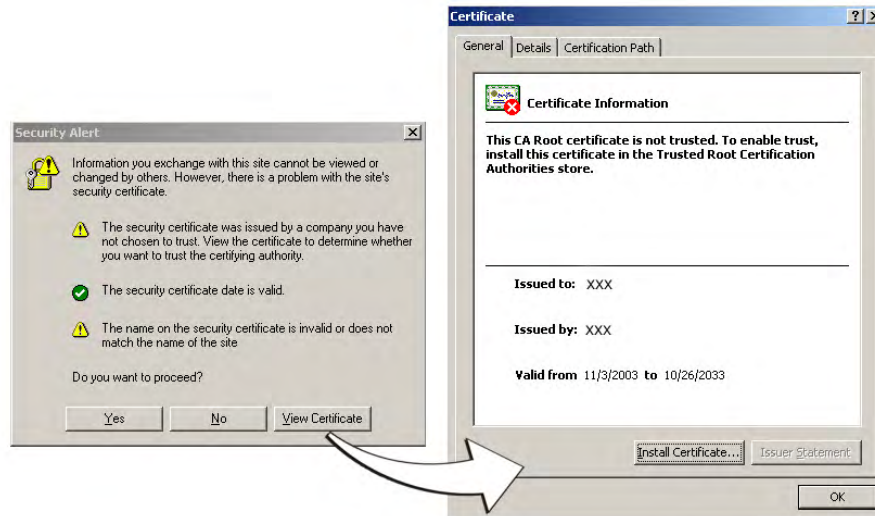

FIG. 86 Security Alert and Certificate popups
- The user is then presented with a Security Alert popup window and Certificate information (FIG. 86).
- The date period given to the certificate has expired. CA-approved certificates typically come with a 2 year window of validity. Self generate certificates come defaulted with a 30 year window of validity (FIG. 86).